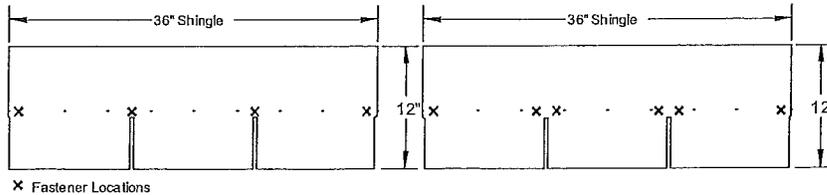

Figure 43. Shingle fastener locations for Wind Zone I (left) and Wind Zone II (right).
2. **Install shingles.** If shingles have been left off at the ridge line for site installation, install them now using 1" x 1" x 16 ga galvanized staples or 12ga 1-1/4" long, 3/8" diameter head roof nails. For Wind Zone I, fasten at 5/8 inch above each tab cutout slot and one at each end of the shingle one inch in from the edge (four fasteners for a three-tab shingle) (Figure 43). For Wind Zone II, use two fasteners 5/8 inch above and on either side of the tab slots and one at each end of the shingle one inch in from the edge (six fasteners for a three-tab shingle). Do not fasten through the shingle tar line.